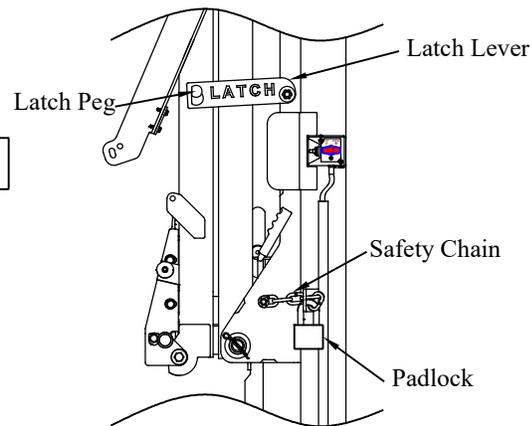

Figure 2: Platform chains removed for clarity.
1. Remove the latch padlock and **Unhook** the safety chain (Figure 2).
2. **Unlatch** the latch lever from the latch peg (Figure 2).